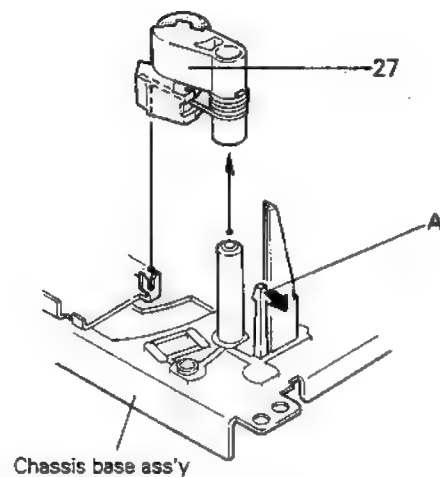

Fig. 7-22
■ Pinch roller assembly (Fig. 7-22)
1. Expand the pawl (A) retaining the pinch roller assembly (27) on the right side in the direction of the arrow while pulling out the pinch roller assembly upwards.